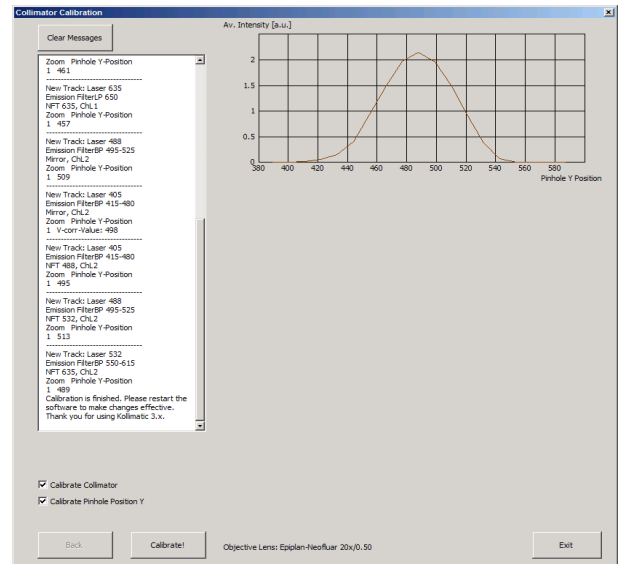

Fig. 13 Collimator Calibration Window
- Make sure that both check boxes have been selected (Fig. 13)